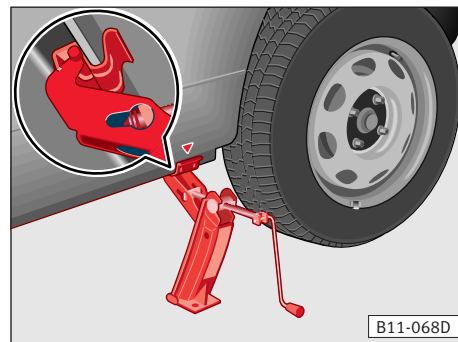

Fig. 139
The fig. 139 shows the jack fitted on the rear left hand side.
- The claw of the jack must fit round the vertical rib on the side member so that the jack cannot slip when vehicle is lifted ⇒ fig. 139.